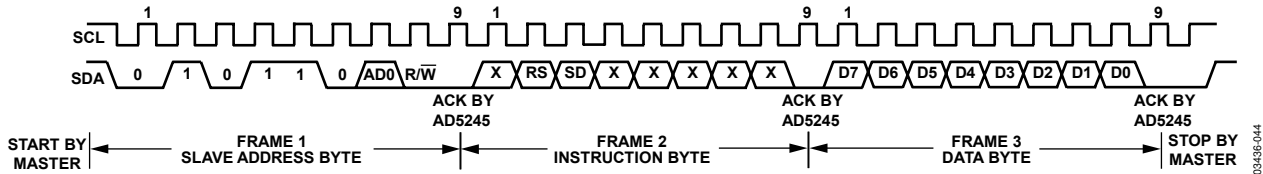
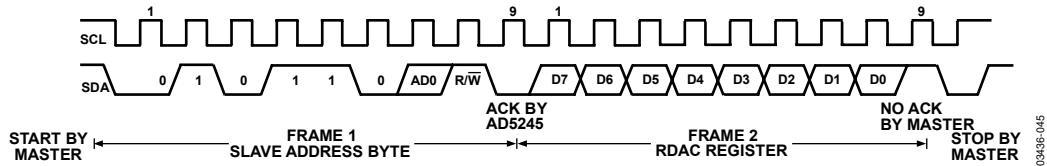

Figure 45. Writing to the RDAC Register
Figure 46. Reading Data from a Previously Selected RDAC Register in Write Mode
1. The master initiates data transfer by establishing a START condition, which is when a high-to-low transition on the SDA line occurs while SCL is high (see Figure 45). The next byte is the slave address byte, which consists of the 7-bit slave address followed by an  $\overline{R/W}$  bit (this bit determines whether data is read from or written to the slave device). The AD5245 has one configurable address bit, AD0 (see Table 8).
3. After acknowledging the instruction byte, the last byte in write mode is the data byte. Data is transmitted over the serial bus in sequences of nine clock pulses (eight data bits followed by an acknowledge bit). The transitions on the SDA line must occur during the low period of SCL and remain stable during the high period of SCL (see Figure 45).
4. In read mode, the data byte follows immediately after the acknowledgment of the slave address byte. Data is transmitted over the serial bus in sequences of nine clock pulses (a slight difference with write mode, in which eight data bits are followed by an acknowledge bit). Similarly, the transitions on the SDA line must occur during the low period of SCL and remain stable during the high period of SCL (see Figure 46).
5. After all data bits have been read or written, a STOP condition is established by the master. A STOP condition is defined as a low-to-high transition on the SDA line while SCL is high. In write mode, the master pulls the SDA line high during the 10th clock pulse to establish a STOP condition (see Figure 45). In read mode, the master issues a no acknowledge for the ninth clock pulse (that is, the SDA line remains high). The master then brings the SDA line low before the 10th clock pulse, which goes high to establish a STOP condition (see Figure 46).